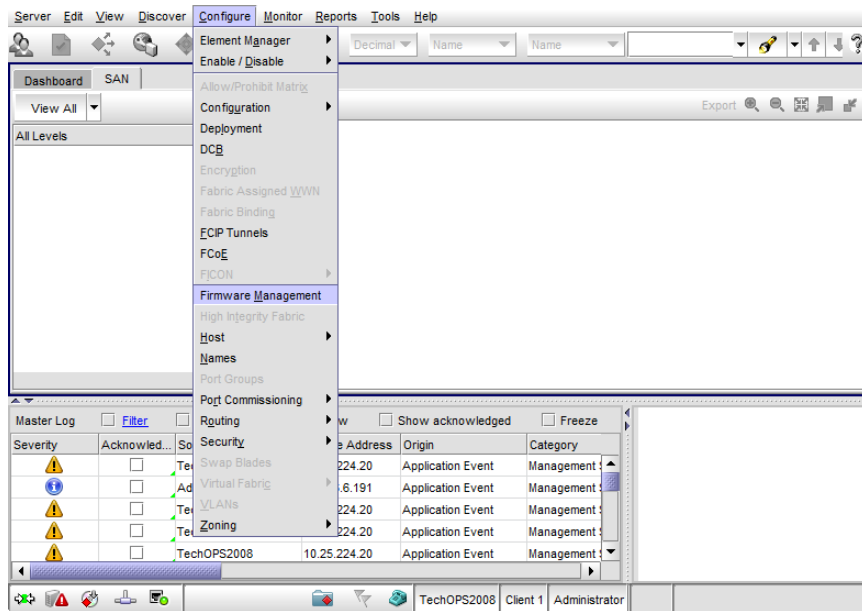

FIGURE 392 Selecting Firmware Management from Configure menu
9. To download firmware to the switch, select **Configure > Firmware Management** from the **SAN** tab on the Management application window as shown in Figure 392 on page 892.